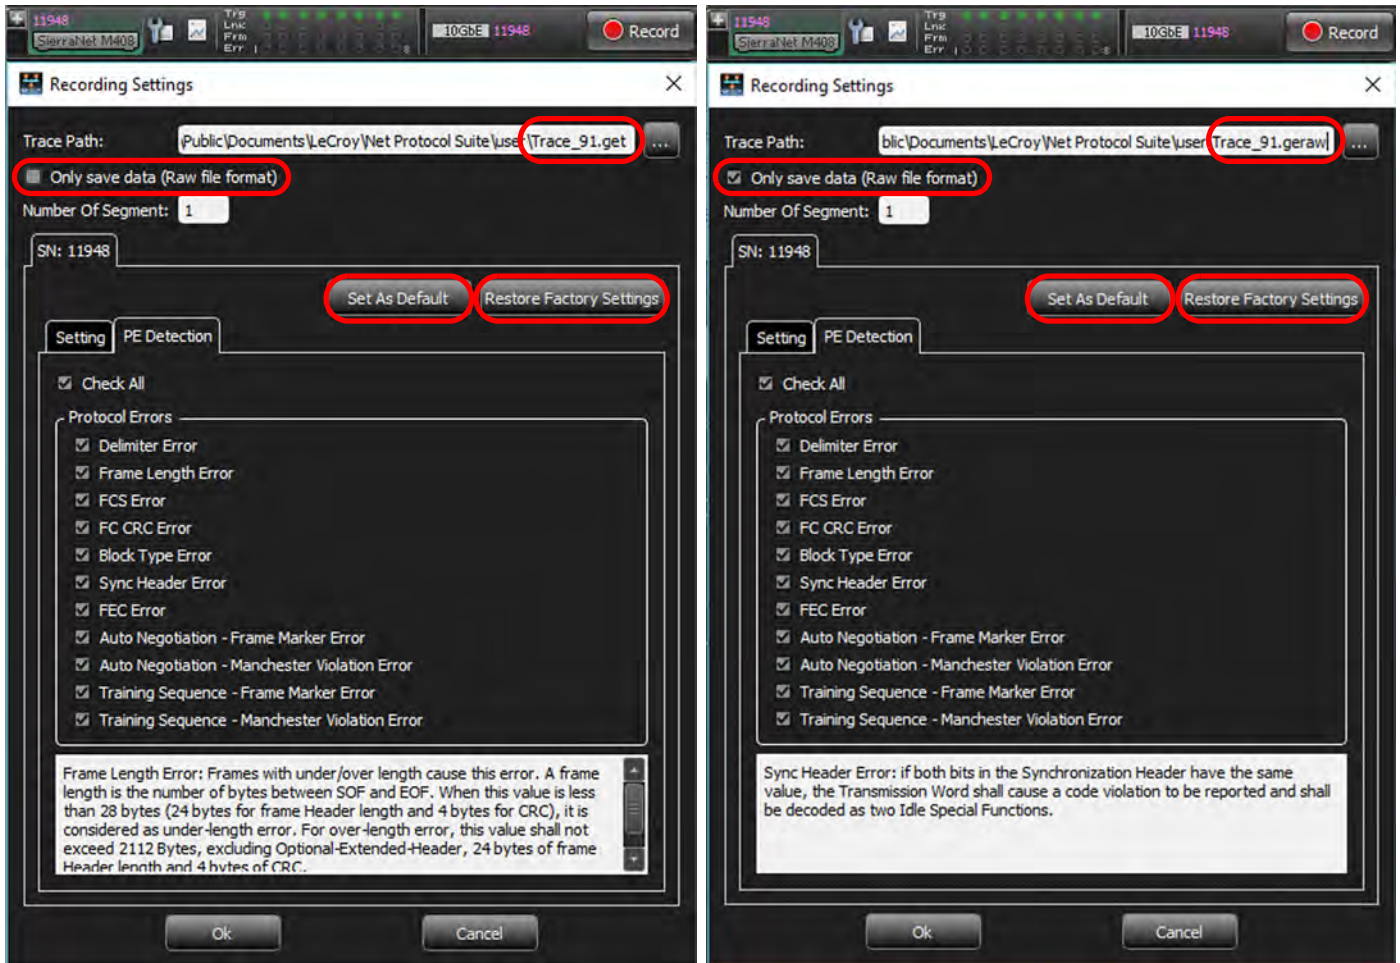

Figure 4.80: PE Detection Tab for M408
The PE Detection Tab allows you to select which Protocol Errors the analyzer will show and which will be ignored. Select one or more protocol errors or select the **Check All** box to select all. Enter the Number of Segments in the field. You can save the trace in two different formats (see Figure 4.80):
The PE Detection Tab allows you to select which Protocol Errors the analyzer will show and which will be ignored. Select one or more protocol errors or select the **Check All** box to select all. Enter the Number of Segments in the field. The **M408 40GbE** options are similar to the **M408 10GbE** options (Figure 4.80).
2. Enter the Number of Segments in the field. The **M408 FC** options are similar to the **M408 10GbE** options (Figure 4.80).
2. Enter the Number of Segments in the field. The **M168 10GbE** options are similar to the **M408 10GbE** options (see Figure 4.80).
The **M168 FC** options are similar to the **M408 10GbE** options (Figure 4.80).
The PE Detection Tab allows you to select which Protocol Errors the analyzer will show and which will be ignored. Select one or more protocol errors or select the **Check All** box to select all. Enter the Number of Segments in the field. The **T328 10/25GbE** options are similar to the **M408 10GbE** options (see Figure 4.80).